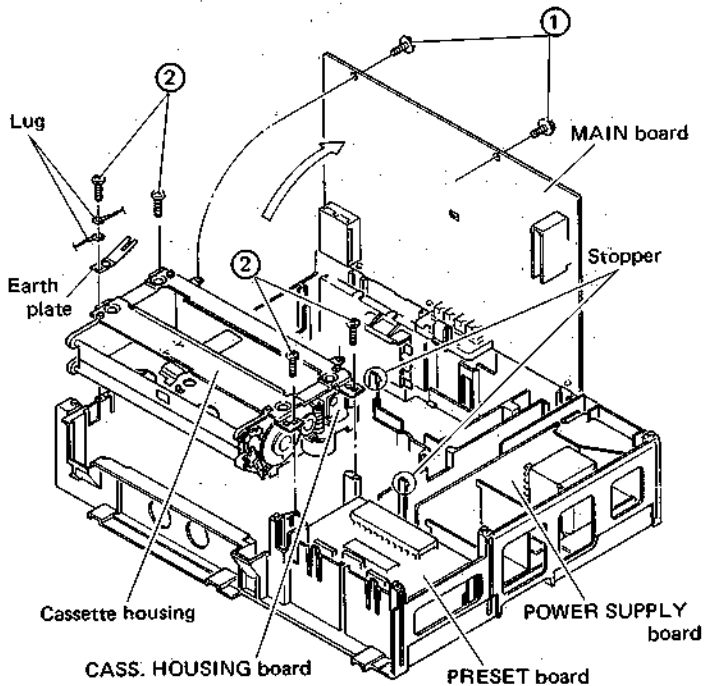

Fig. 2-3-1 Removal of cassette housing
- 1) Before inserting the cassette, put two lugs (shown in Fig. 2-3-1) into electric connection.